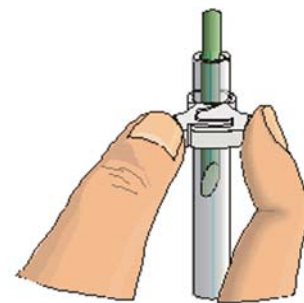

*Figure 2*
- b. Completely submerge the tubing in the water, trying to get as few air bubbles in it as possible. Slip a plastic tubing clamp onto the tubing as shown in *Figure 2*.